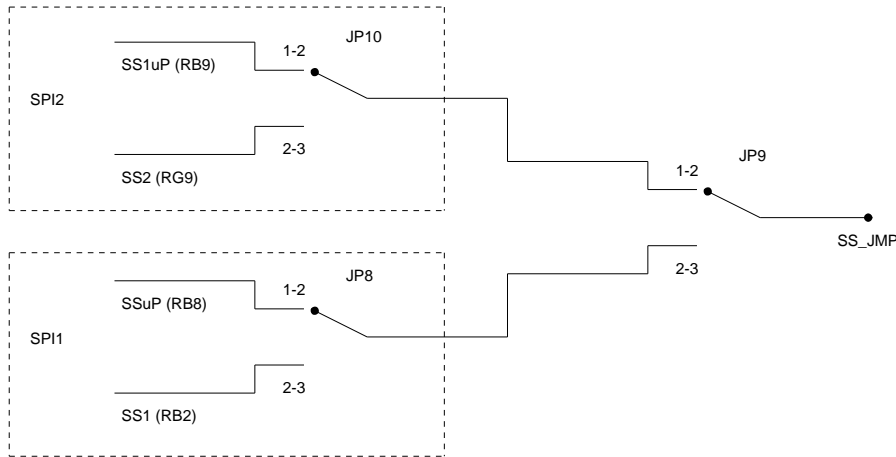

Figure 3.18: The figure shows the jumper settings for the SPI chip select of Slot 6.
- Slot 6 - JP5, JP6, JP7, JP8, JP9, JP10** Jumpers JP5, JP6, JP7 can be used to select if the data in, data out, and clock of the SPI bus should be connected to the first (position 2-3) or to the second (1-2) SPI peripheral of the dsPIC (R) DSC. Please note that all the three jumpers should select the same port (that is, they must be all three in position 1-2 or 2-3).
- Jumpers JP8, JP9, and JP10 control the chip select of the SPI module from either a general purpose I/O or chip select pin built-in in the microcontroller (see Figure 3.18 and Table 3.7).
- Slot 7 - JP12, JP13, JP14, JP15** Jumpers JP12, JP13, JP14 and JP15 can be used to select if the data in, data out, clock and chip select of the Ethernet bus should be connected to the first (position 2-3) or to the second (1-2) SPI peripheral of the dsPIC (R) DSC. Please note that all the four jumpers should select the same port (that is, they must be all four in position 1-2 or 2-3).